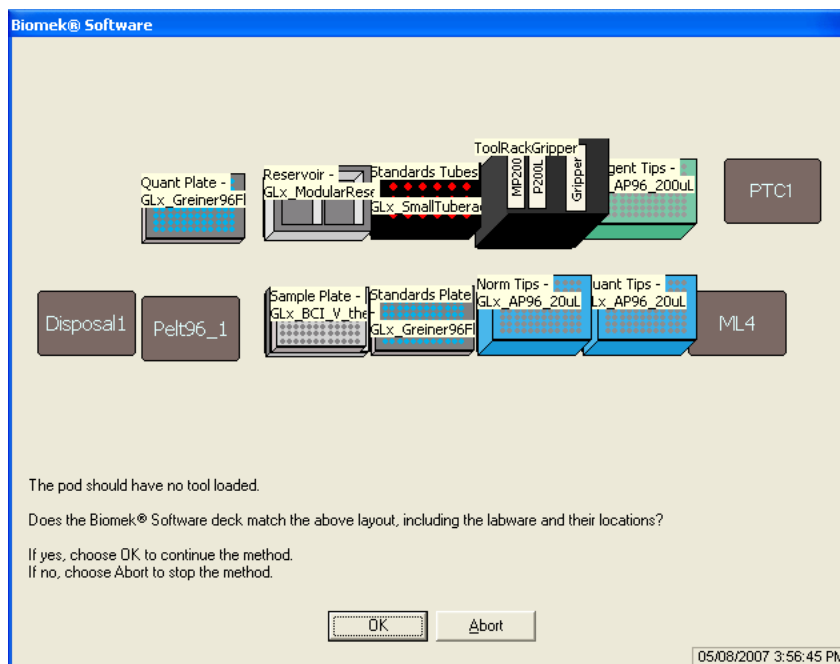

Figure 1-5. Deck confirmation prompt for Quant and Norm method
17. Click **Run** on the toolbar to start the method. The GenomeLab splash screen displays briefly, then Deck Confirmation appears (Figure 1-5).